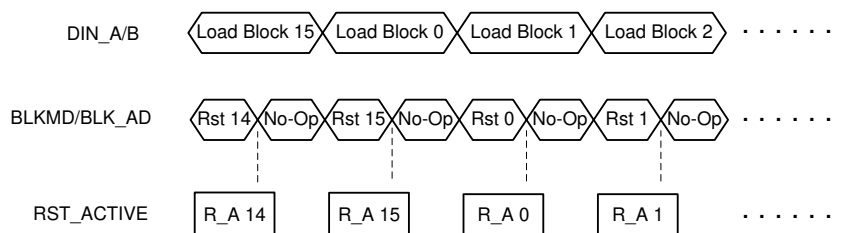

Figure 14. Single Block Phased Mode with Longer Block Load Times
Single Block Phased Mode is best described as "phasing" the data load operation with the Block Reset operation. The major advantages of Phased Modes (Single, Dual, and Quad) in general are the idea of not having to wait for the micromirror settling time duration to complete prior to the next block reset, and for not having to wait for the Reset Request to complete prior to loading more data. In the example of Figure 14, Block 15 is loaded with data while the Reset operation is taking place for Block 14 (Rst 14). The Reset Request (BLKMD and BLK_AD) for Block 14 needs to be one row cycle in duration minimum but can be extended to additional row cycles. Subsequent row cycles containing a valid Reset Request will be ignored until RST_ACTIVE goes low. Therefore, BLKMD and BLK_AD should transition from a Reset Request to a Block No-Op while RST_ACTIVE is still asserted as once RST_ACTIVE de-asserts there is the likelihood of an undesired Reset Request to be generated on the same block.
In Figure 14, Block 0 is issued a Block Reset concurrently with data being loaded into the next block (1). The Row Cycles of the Block 1 data loading capture the Reset Request for Block 0, and provide continued Row Cycles for the duration of both the Block Load and the Block Reset. Note that the loading of block 1 does not need to wait for the mirror settling time of Block 0. This is repeated until the last block is Reset (which might also contain loading the next Block 0 data). Since the DLP650LNIR block load time is already longer than the RST_ACTIVE time, full utilization of its bandwidth is readily achieved in a single block phased mode.